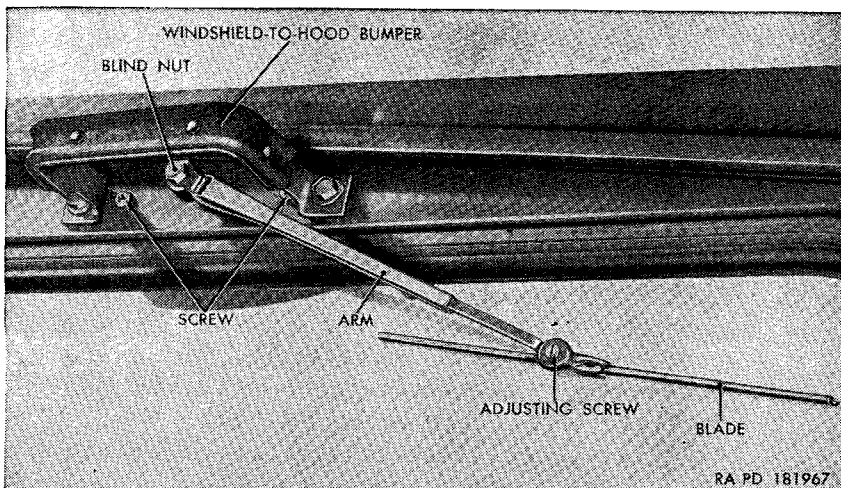

Figure 186. Windshield wiper blade and adjustable arm assemblies—installed.
### a. Windshield wiper blade assembly (fig. 186).
### b. Windshield Wiper Adjustable Arm Assembly (fig. 186).
tee for left motor and windshield wiper-to-center line for right motor) (E and K) from the fitting on the windshield wiper vacuum motor assembly (F and L). Remove one lockwasher screw from the windshield-to-hood bumper assembly (fig. 186), loosen the other lockwasher screw, and let one end of the bumper drop to permit removal of the screws securing the motor. Remove the two internal-teeth lockwasher screws securing the motor to the windshield frame. Remove the two windshield wiper mounting spacers and remove the motor from the frame.
- (2) *Installation.* Working inside the vehicle, insert the serrated shaft of the paddle within the windshield wiper vacuum motor through the hole in the windshield frame. Slide the hose (windshield wiper-to-tee for left motor and windshield wiper-to-center line for right motor) (E and K) onto the fitting on the motor. Working outside the vehicle, insert two No. 10-32NF-2 x  $\frac{7}{8}$  internal-teeth lockwasher screws into the windshield frame. From the inside of the windshield frame, insert one windshield wiper mounting spacer on each screw and screw into the motor. Secure the windshield-to-hood bumper (fig. 186) to the windshield frame with two  $\frac{1}{2}$  x  $\frac{1}{2}$  lockwasher screws. Install the windshield wiper adjustable arm (*b*(2) above). Install the windshield wiper blade (*a*(2) above). Start engine and check motor for proper operation.